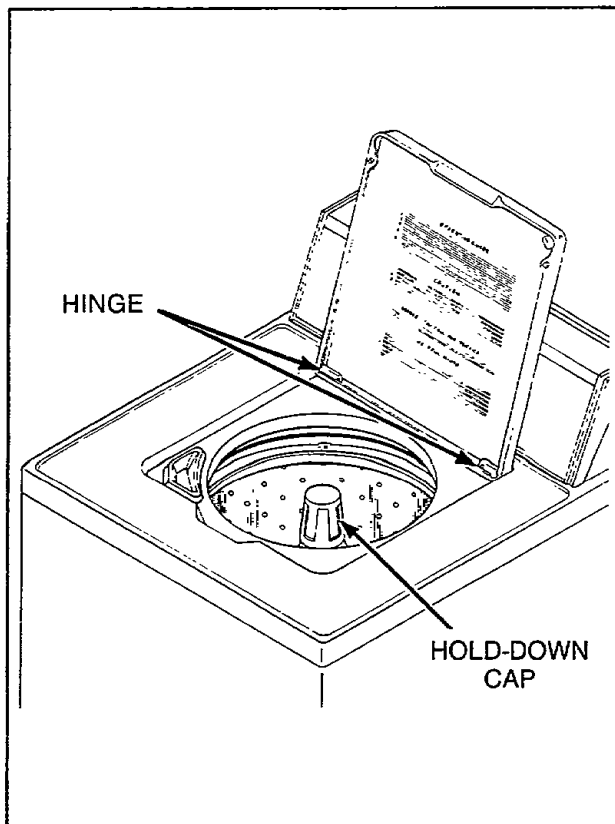

Figure 6
6. LOADING DOOR (Refer to Figure 6)
- Remove agitator hold-down cap and lift agitator out of washtub, *Figure 6*.